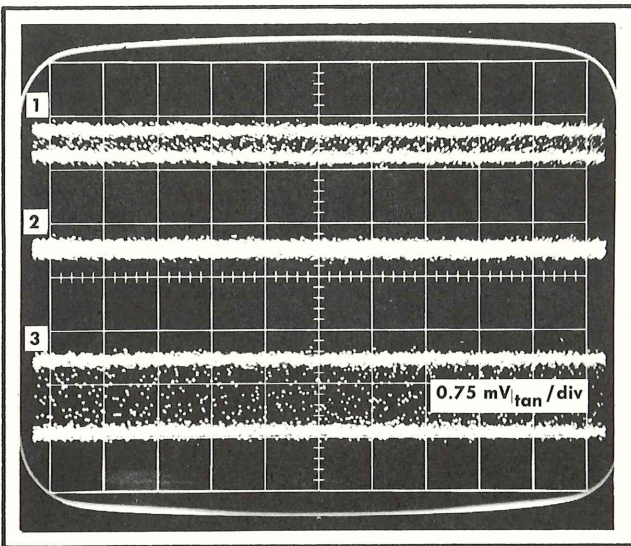

Fig. 5-11. Tangential noise check.
e. Obtain a free-run display of two traces. See part 1 of Fig. 5-11. Adjust the variable attenuator until the two traces start to blend together and the dark space between the traces first becomes imperceptible; see part 2 of Fig. 5-11. At this point the two traces form one extra-wide trace.
f. Set the Type 284 Square Wave Amplitude control to 1.0 V (10 times the original signal amplitude). The display should be similar to that of part 3 of Fig. 5-11 and should not exceed 2.67 divisions (equivalent to 2.0 mV). The display (3) has a tangential deflection factor of 0.75 mV/div
Fig. 5-11 part 3 shows ≈ 1.05 mV tangential noise. Use the bottom edges as reference for measuring. (Though the special variable attenuator may present an impedance other than 50 Ω to the air line, the air line presents an impedance of 50 Ω to the probe during the probe conduction time.)
The noise display (part 3 of Fig. 5-11) has a noise deflection factor based upon the signal amplitude, the Type 353 Units/Div switch setting, the fact that the final trace separation is twice the RMS noise, and that the tangential noise is then 3 times the RMS noise. The square wave signal amplitude that makes two traces appear as one sets the trace